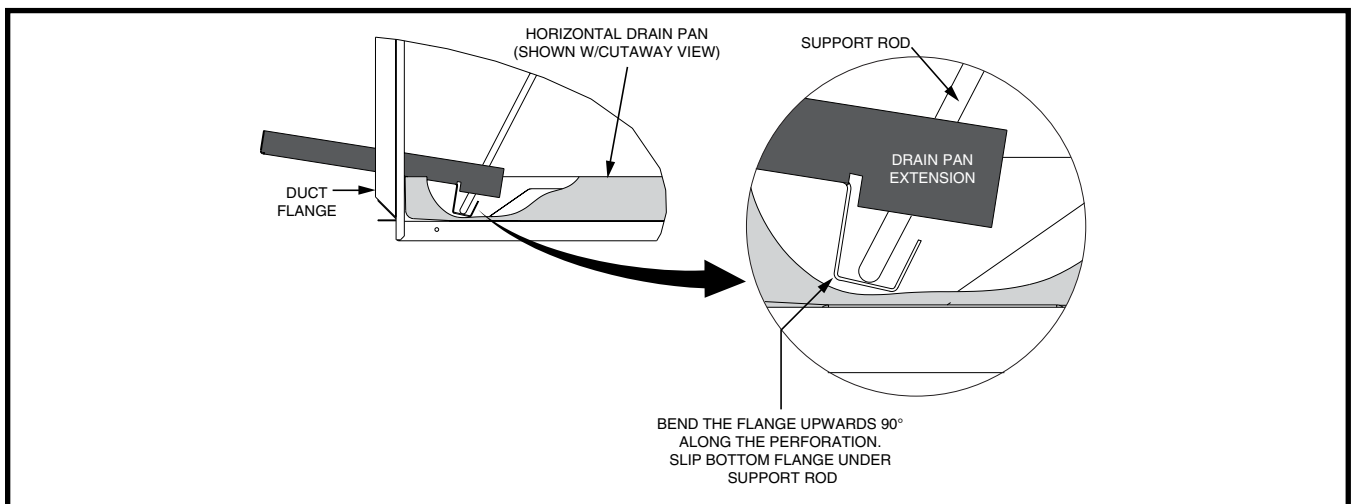

Figure 4. Drain Pan Extension
- **For 18" conversion kits:** Slip the bottom flange of the drain pan extension under the coil support rod in the drain pan. Make sure the side tabs fit inside the drain pan on each side between the drain pan inside wall and the coil support rod. See Figure 4. **NOTE:** Before installing the drainpan extension, the flange that the support rod rests on needs to be bent, creating a "C-Channel". This will ensure the extension stays in place. To create the "C-Channel", bend the flange upwards 90° (along the perforation) as shown in Figure 4.